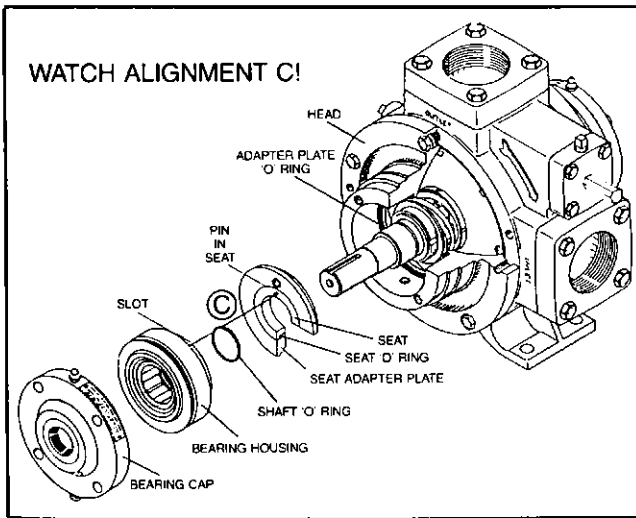

FIGURE 14
17. Slide bearing housing assembly into head. (See Figure 14) Locate the slot in bearing housing over the pin in back of seal seat. If pin is not in slot, the seal will not be properly positioned and will leak.